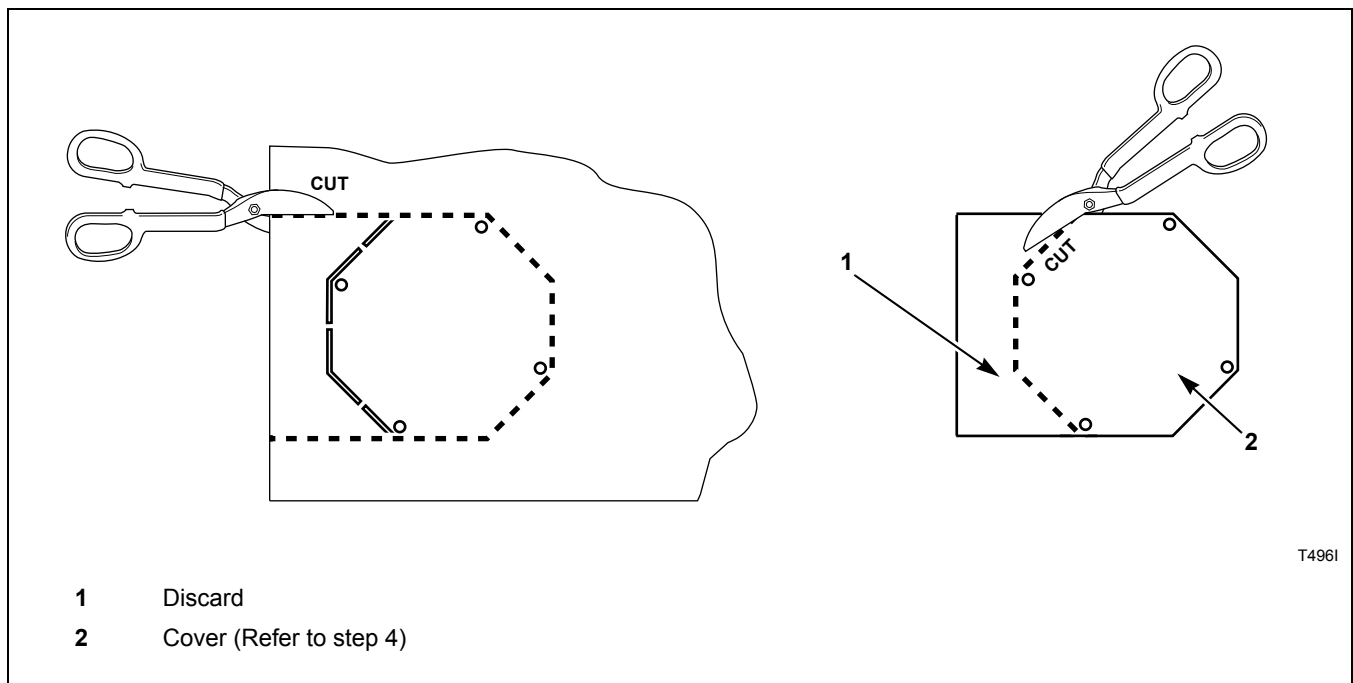

Figure 10
3. Cut out shape from belt guard cover. Refer to *Figure 10*.